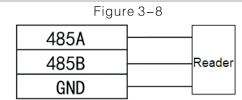

Figure 3-8
- Wiring method of RS485 reader is shown in Figure 3-8. For descriptions about wiring terminal, please refer to Table 3-6.